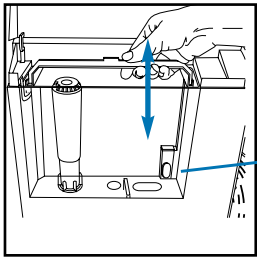

Fig. 4
- 4. Low Water Flotation Device (see fig. 4, call-out #4)